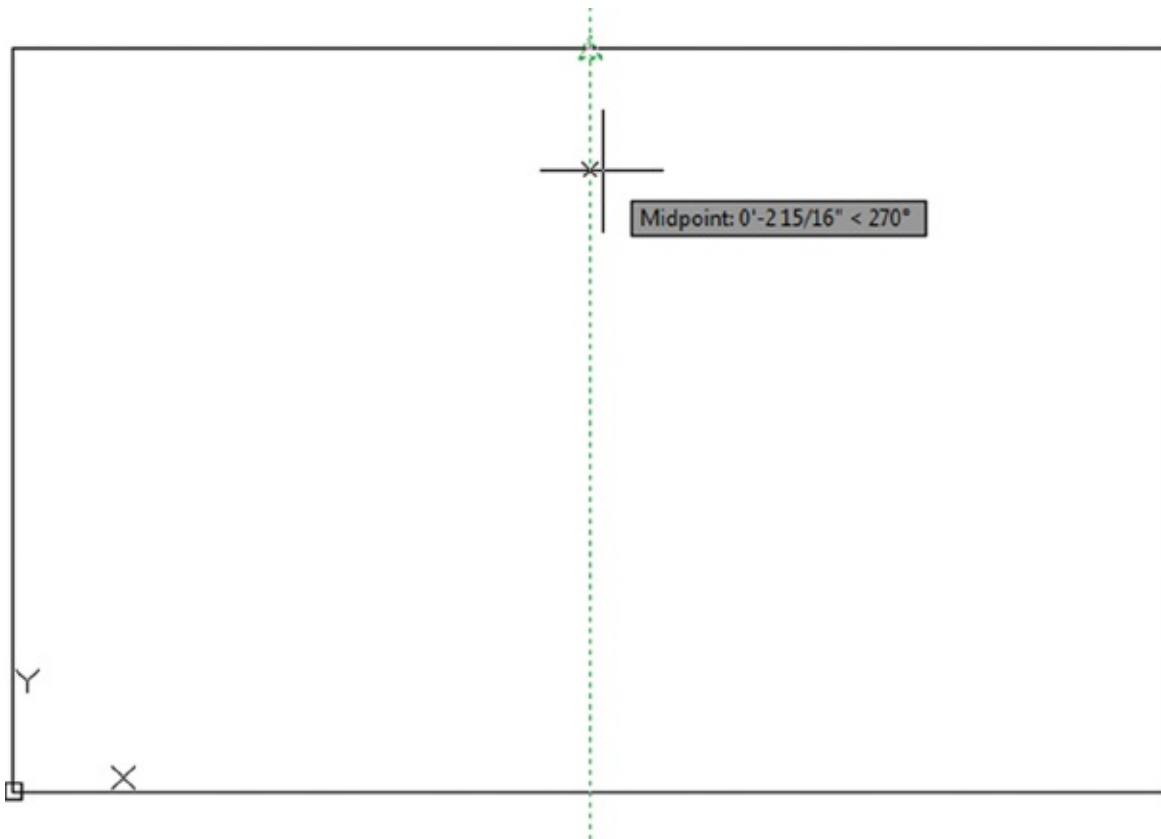

FIGURE 3.19 A vertical dotted line appears.
4. As you move the cursor downward, a dotted line appears, emanating from the midpoint of the horizontal line. The cursor also shows a small *X* following the dotted line as you move it (see Figure 3.19).